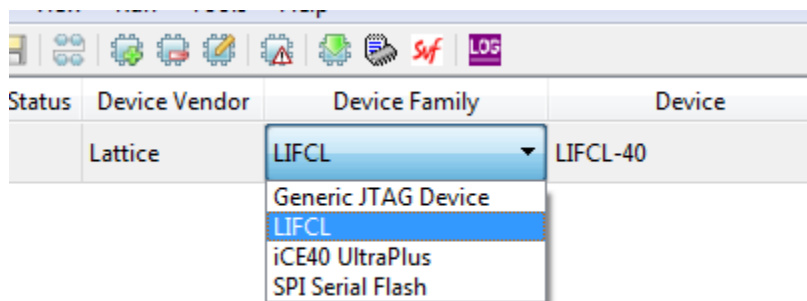

Figure 4.2. Radiant Programmer – Device Selection
2. Select **LIFMD** for **Device Family**, **LIFCL** for **Device Vendor**, and **LIFCL-40** for **Device** as shown in Figure 4.2.